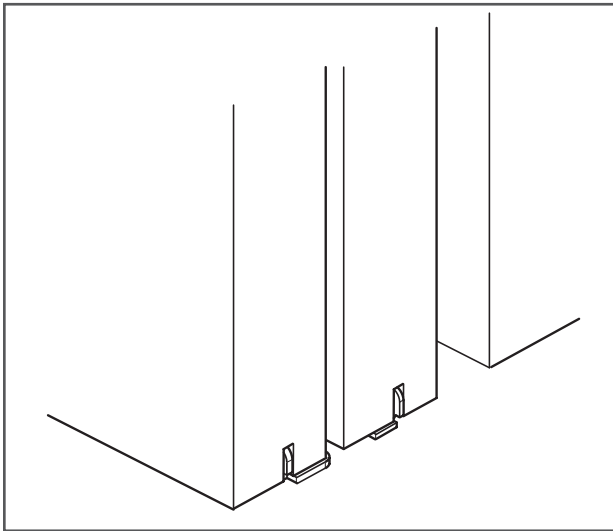

Figure 16
23. Position the doors over door guides as shown (Figure 16).